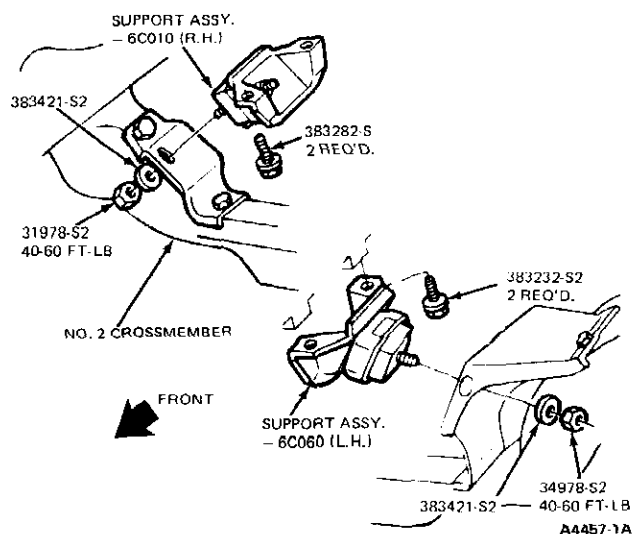

FIG. 5 Engine Front Supports—Fairmont and Zephyr
2. Remove the nuts attaching the insulators to the lower bracket (Fig. 5).